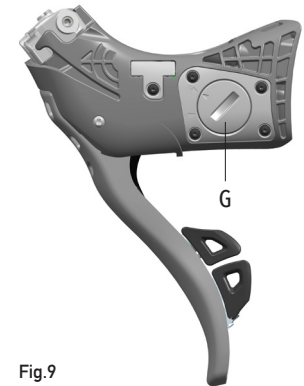

Fig.9
- G - Battery compartment (Fig.9)